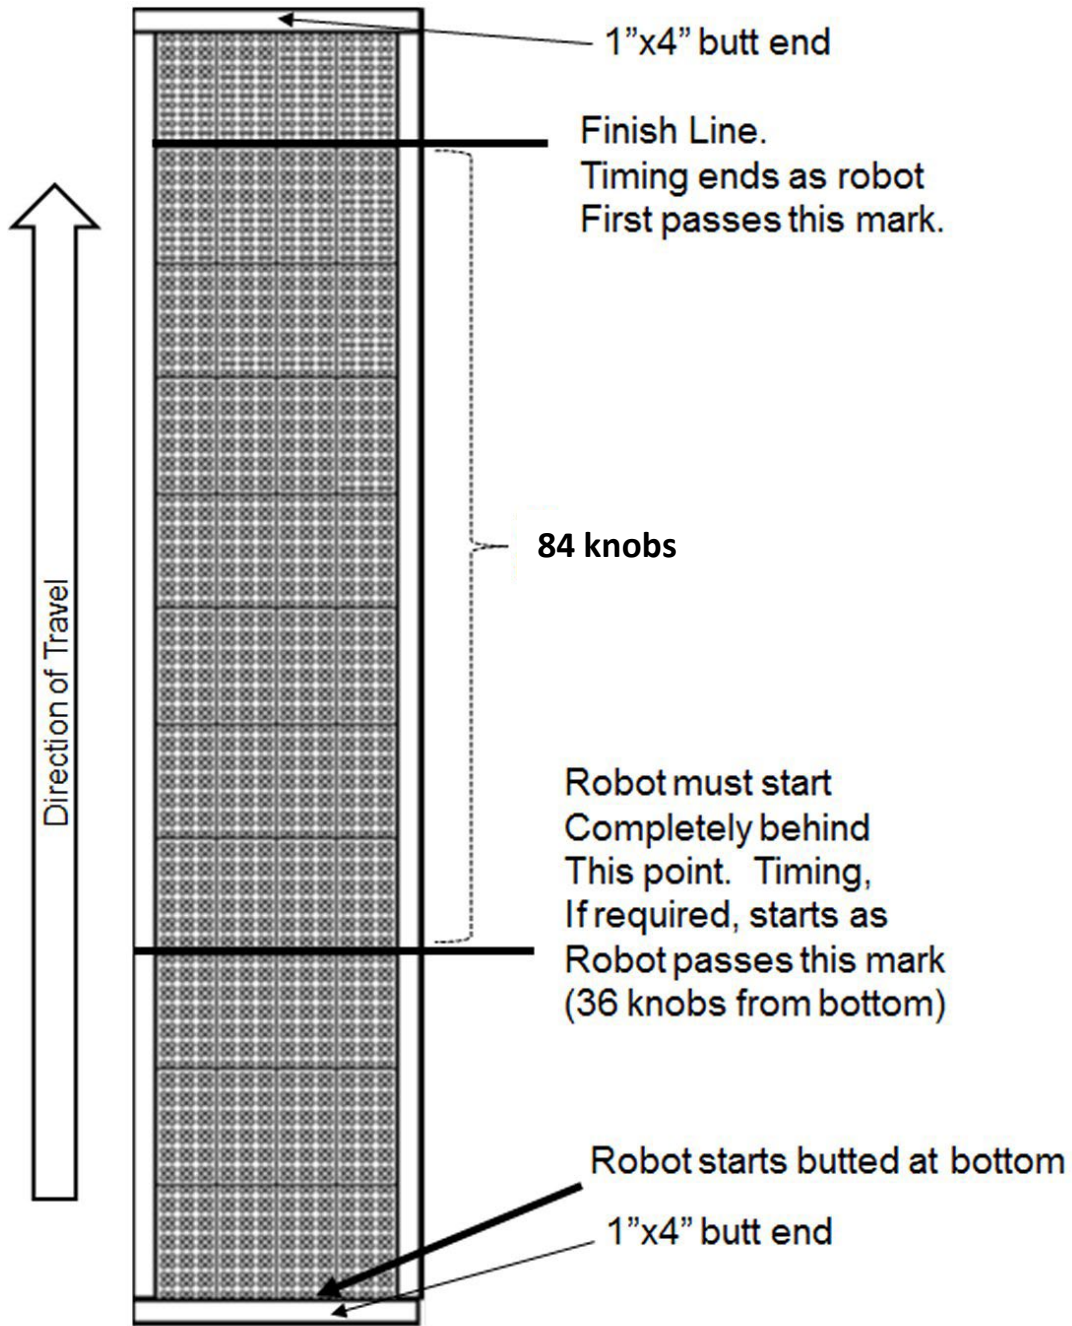

Figure 3 - Diagram of slope construction and slope zones
- i) The platform is 24 knobs wide x 132 knobs long (**inner dimension is 41.5" long** and 7.5" wide and covered in LEGO® plates. (see Figure 3)